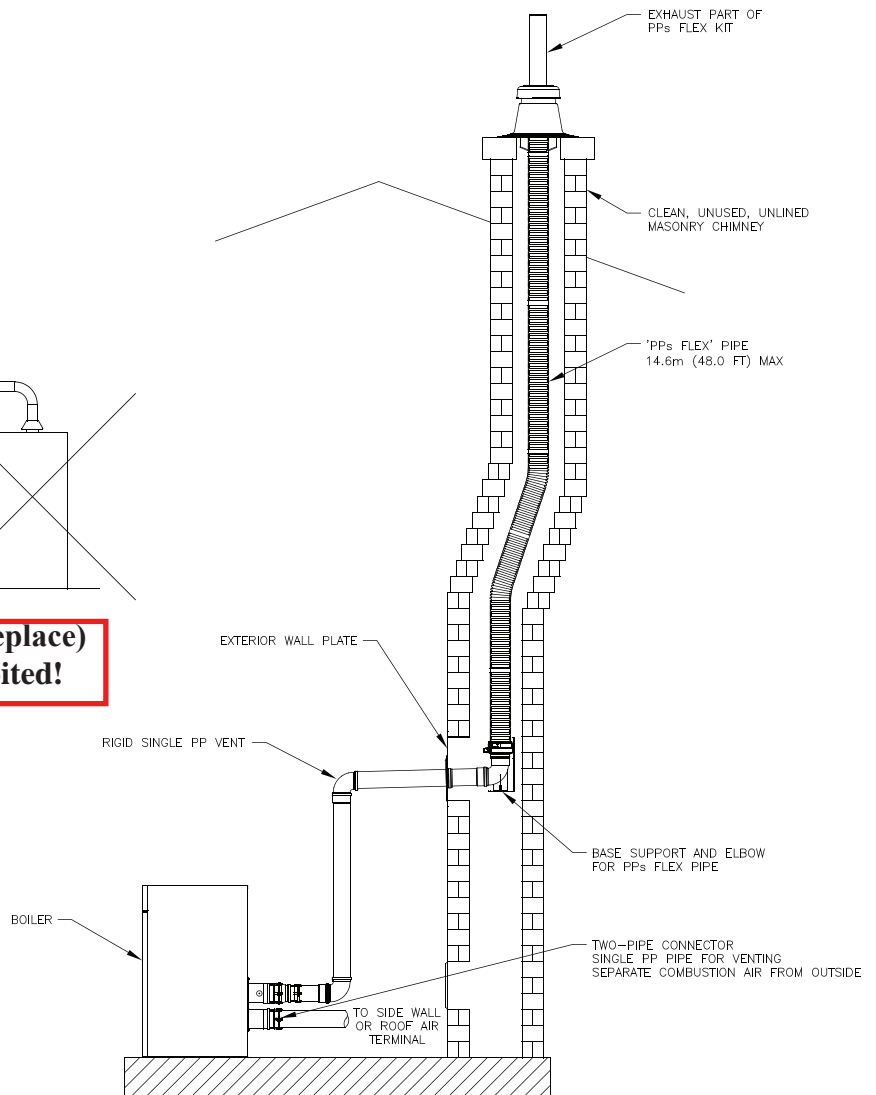

Figure 15: Flexible PP Vent in Masonry Chimney with Separate Combustion Air Intake
- b. Refer to Figure 15 for details of chimney chase installation.